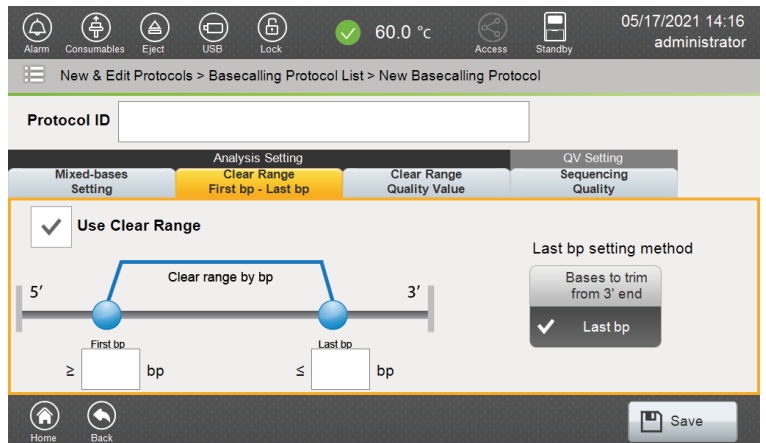
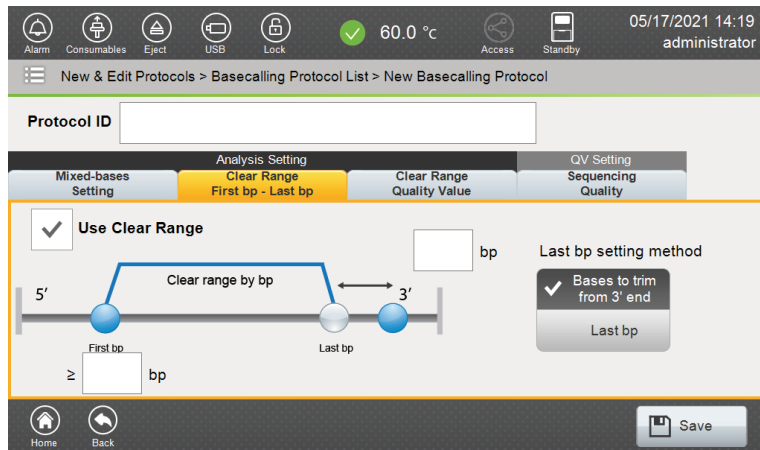

Figure 123. 'Use Clear Range': Last bp view.
Figure 124. 'Use Clear Range': Bases to trim from 3' end view.
<p>Clear Range First bp–Last bp</p>	<p>Checking the “Use Clear Range” box enables the user to define the first and last bp using the fields in the clear range diagram (Figure 123 and Figure 124).</p> <p>Note: When creating a new Basecalling Protocol, the default setting for Clear Range First bp–Last bp is disabled (box unchecked).</p> <p>When using the ‘Clear Range First bp–Last bp’ method in the basecalling protocol, the first bp position to be considered for analysis is set by entering the 5’ bp position in the ‘First bp’ field.</p> <p>For the 3’ end point (last bp position to be considered for analysis), two last bp setting methods are available for setting the 3’ end of the clear range:</p> <ul style="list-style-type: none"> • Last bp: Enter the final base in the sequence to be considered for analysis (enter 3’ bp position in ‘Last bp’ field) (Figure 123). • Bases to trim from 3’ end: Trims the specified number of bases from the 3’ end of the sequence run to determine the last bp to consider for analysis (enter number of bases to trim in ‘bp’ field) (Figure 124). <p>Minimum and maximum values allowed by software for ‘First bp’, ‘Last bp’ and ‘Bases to trim from 3’ end’ fields are 1bp and 1200bp, respectively.</p>
- Check the "Use Clear Range" box to activate the buttons for choosing the setting for first and last base (Figure 123). When this is enabled, the first bp position to be considered for analysis is set by entering this value in the 'First bp' field. The default 3' base setting is Last bp (e.g., if set to 700bp, any bases after the base pair number 700 will not be analyzed). Enter the desired values to specify the first and last bases of the sequence to consider for analysis.
6. Select **Bases to trim from 3' end**. When this is enabled, the first bp position to be considered for analysis is set by entering this value in the 'First bp' field. The number of bases to trim from the 3' end of the sequence is entered into the 'bp' field (Figure 124). Under this setting the last base considered for analysis would depend on the length of sequence obtained.